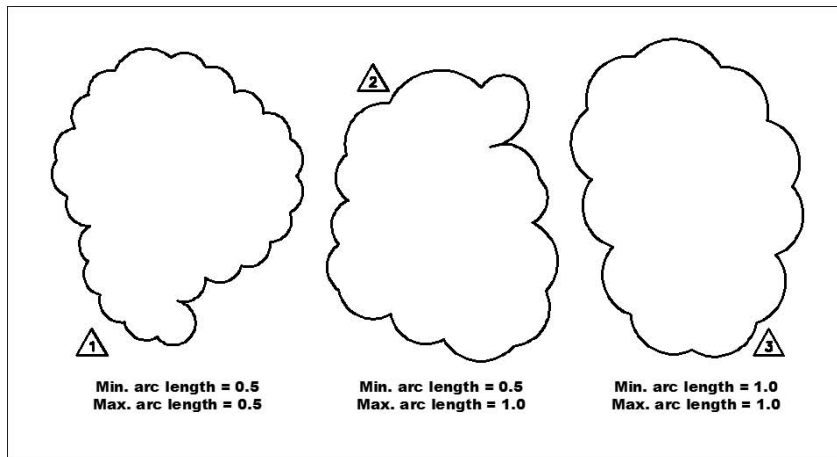

Figure 6-11:
The following command line example shows you how to draw a revision cloud. Figure 6-11 shows what revision clouds look like.
- ✔ You may need to add a triangle and number, as shown in Figure 6-11, to indicate the revision number. A block with an attribute is a good way to handle this requirement: Chapter 14 covers blocks and attributes.